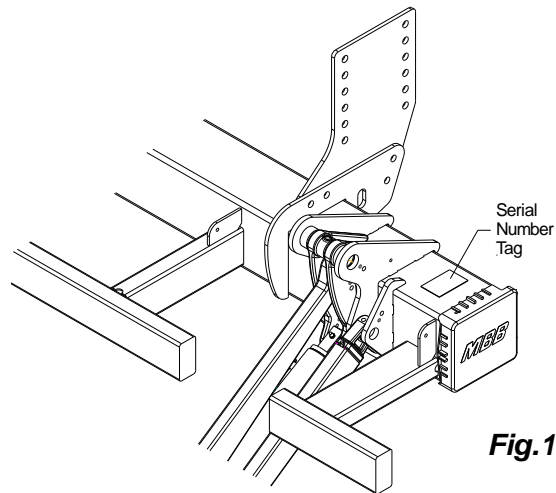

Fig. 1
- 1) Refer to the serial number tag on top of the mount tube at curb side as shown in **Fig. 1**.